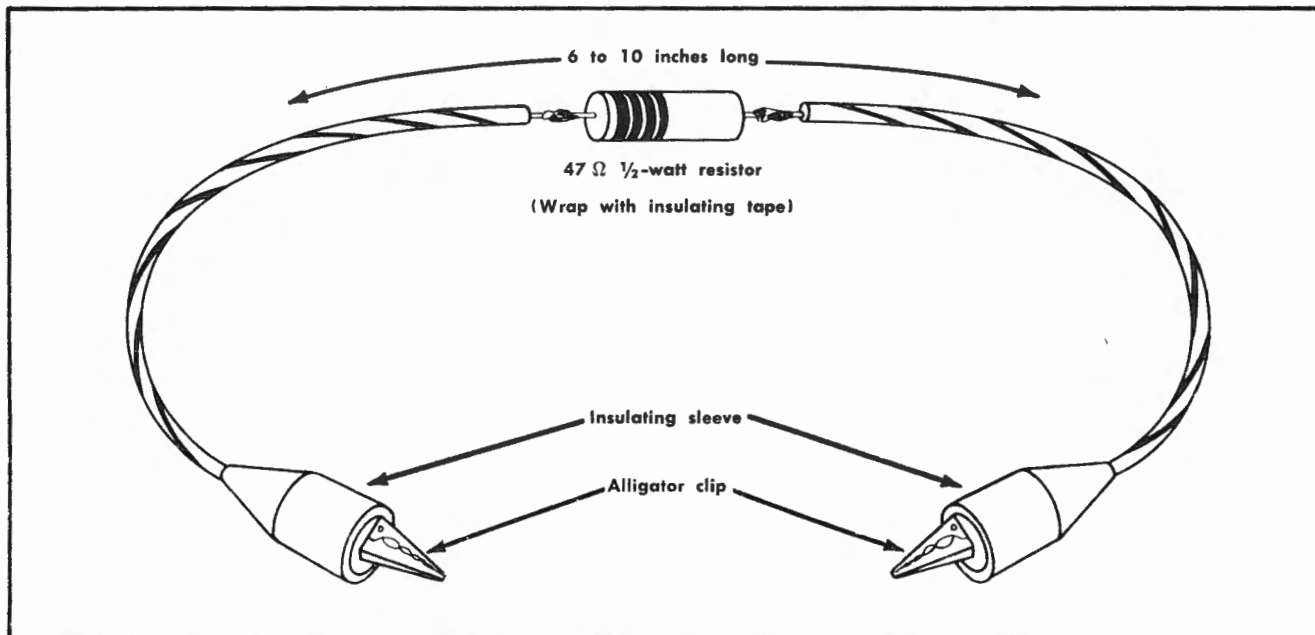

Fig. 5-4. Shorting strap for checking vertical or horizontal unbalance.
If the isolation checks indicate vertical or horizontal unbalance in the Indicator Unit, locate the source of the unbalance by shorting across between the two sides of the circuit. Use a shorting strap such as the one illustrated in Fig. 5-4.
21. Shorting strap illustrated in Fig. 5-4.